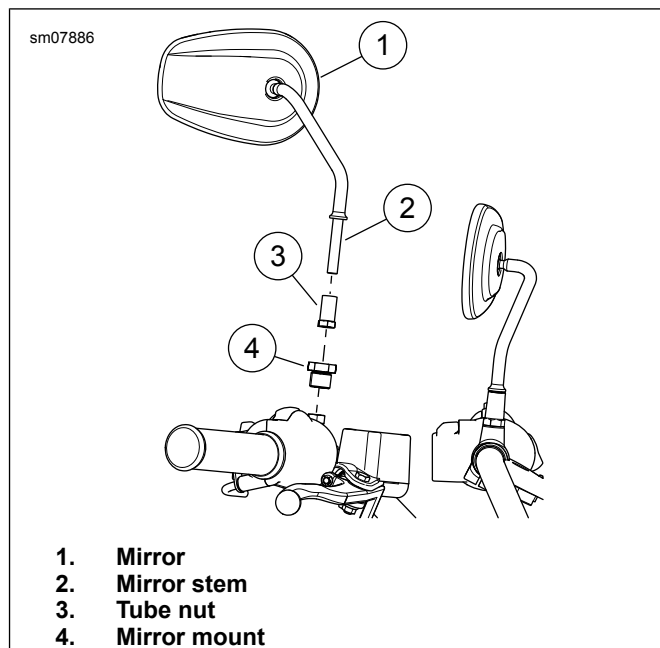

Figure 2. Mirror
- a. Figure 2 Remove mirror (1).
- b. Remove tube nut (3).
- c. Remove mirror mount (4).
- a. Figure 2 Remove mirror and hardware. Discard.
- a. Figure 2 Install mirror mount (4). Tighten.